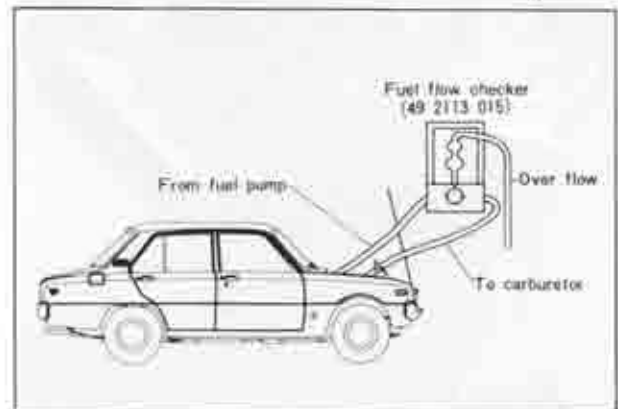

Fig. 4-3 Fuel flow check.
2. Set the fuel flow checker (49 2113 015) as shown in Fig. 4-3.